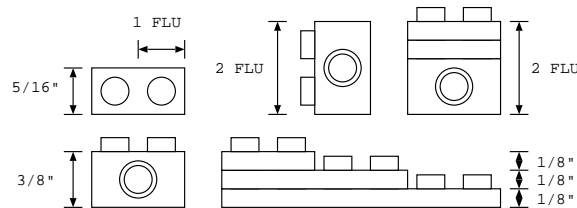

Figure 1: LEGO Dimensions (FLU)
- A Fundamental LEGO Unit (FLU) is equivalent to the length of a LEGO nub, as shown in Figure 1.